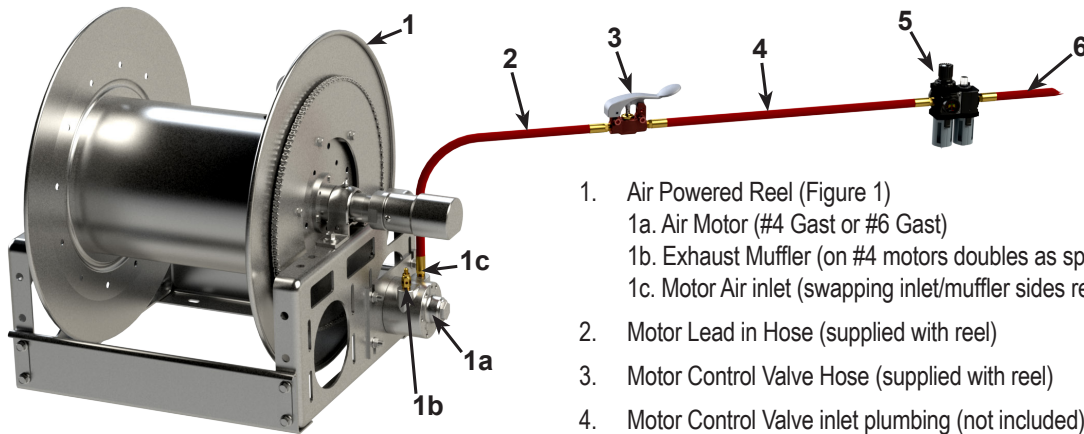

FIGURE 1: Air Powered Reel & Components
1. Air Powered Reel (Figure 1)